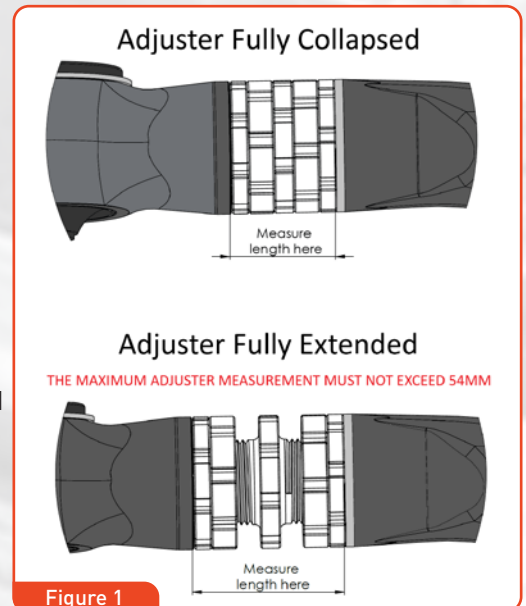

Figure 1
- Adjust the assembly to the recommended settings for your suspension lift. Measuring from the inner face of both the bush aperture and the insert in the main forging. **See Figure 1.**
See Figure 1.